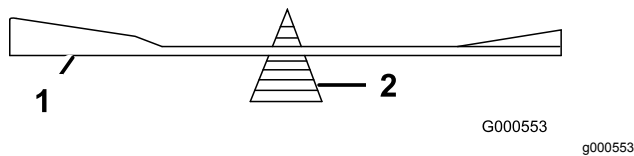

Figure 96
2. Check the balance of the blade by putting it on a blade balancer (Figure 96).